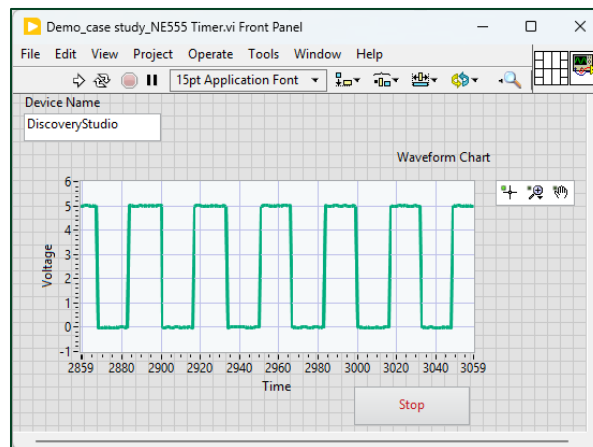

Figure 8. VI Front Panel
2.2. Modify the front panel shown in **Figure 8**. Inside **Device name** String Control write your corresponding **Device** name from **Table 2**.